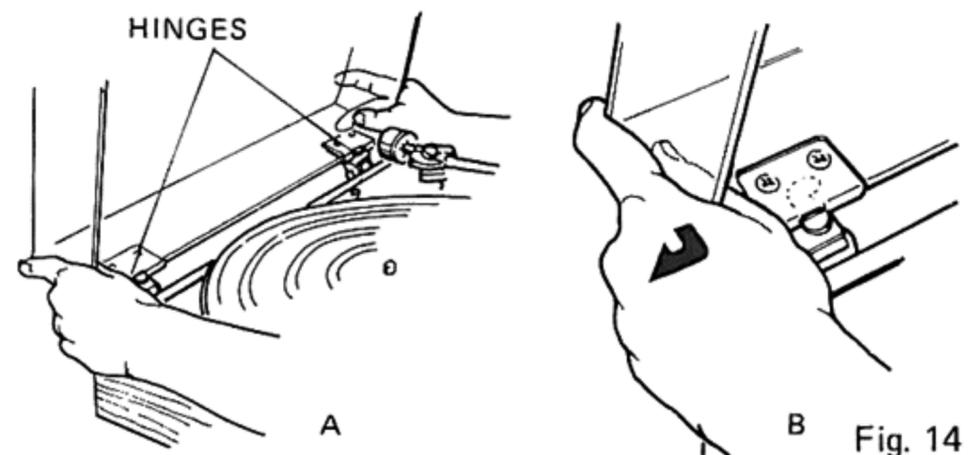

Fig. 14
1. Hold dust cover vertically (Fig. 14-A).
3. Push dust cover about 5mm to the left (as seen from the front) to secure hinges ( Fig. 14-B ).